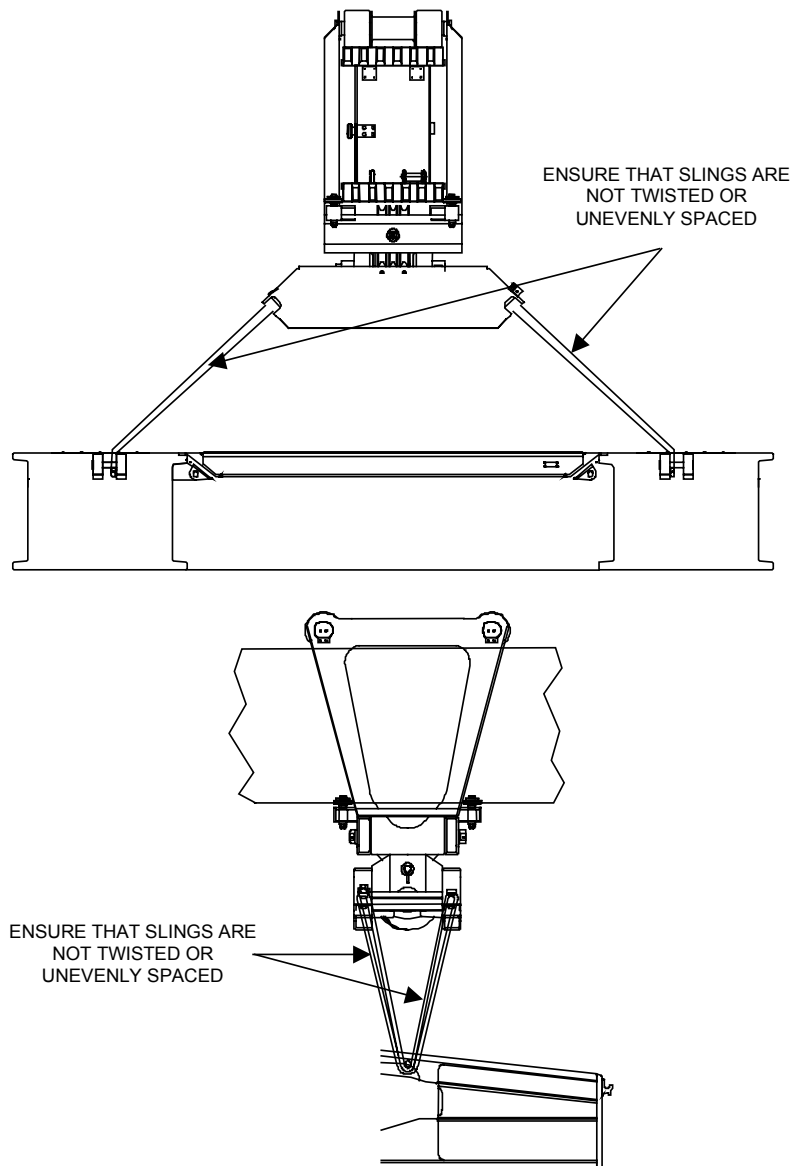

Figure 5. 2 Method and Location of Slinging Home Bank Carriage
- 5.4.1.26 Route the carriage slings through the front ramp module bridge lifting points (Figure 5. 2) and re-connect the sling to the carriage. Ensure the slings do not cross and thus become twisted. Ensure that the carriage is level horizontally and vertically, prior to lifting, with respect to the upper part of the carriage.